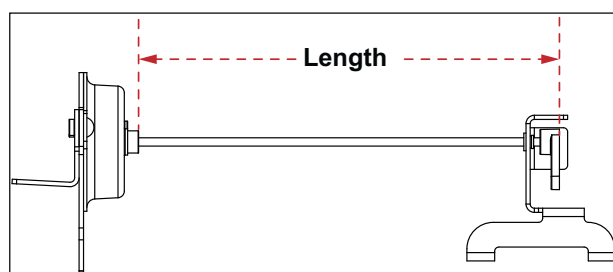

Figure 1. Length Reference Drawing.
1. Overall length of the assembly (rod). See Figure 1.
NOTE: All references to length are measured from the bushing on the thermostat housing end, to the end of the shaft. See Figure 1.